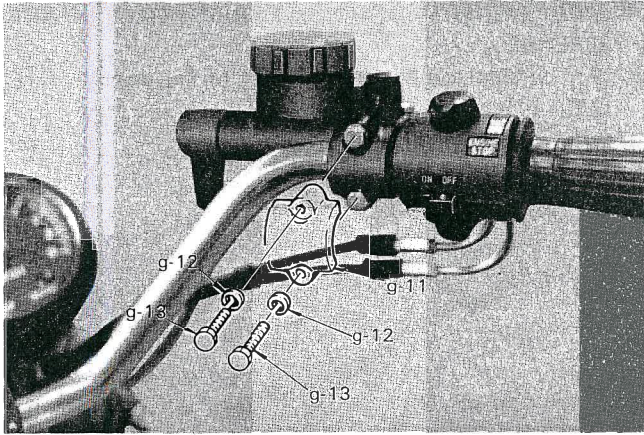

Fig. 28
22. Install the front brake master cylinder assembly using two bolts (g-13), two spring washers (g-12) and lever holder (g-11) contained in the vinyl bag. (Fig. 28)